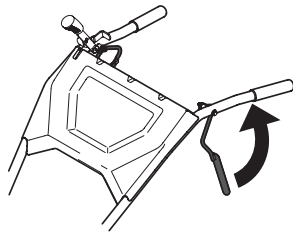

Figure 15
- a. Pull the bail up and hold it against the handlebars. See Figure 15.